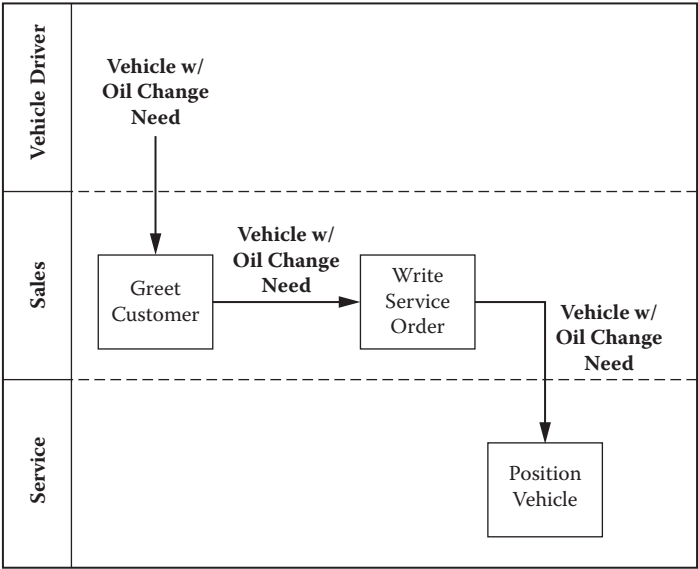

Figure 5.9 Swimlane diagram showing three entities: Vehicle Drive, Sales, and Service.
6. Draw horizontal bands (swimlanes) to represent the “entity” that does the work. Inputs and outputs pass through these bands (Figure 5.9).